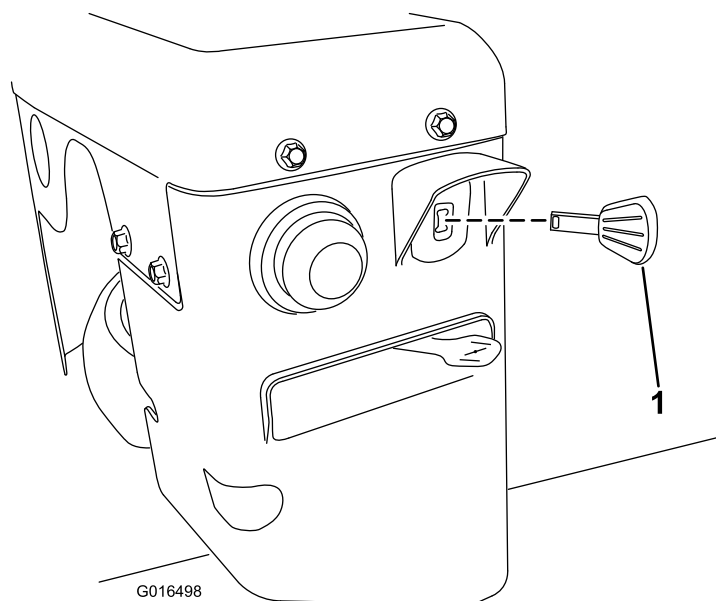

Figure 22
3. Fully insert the ignition key (Figure 22).